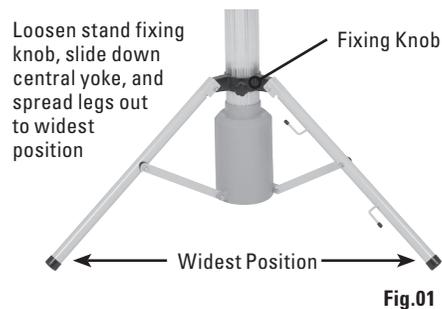

Fig.01
1. Loosen the stand fixing knob and slide central yoke downward while holding the main cylindrical body firmly. This will allow the legs to spread out to widest position and provide maximum stability Fig.01.